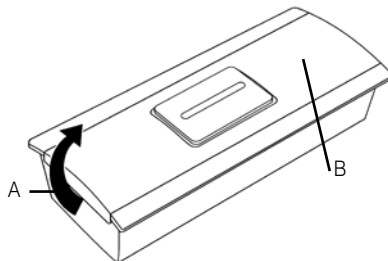

Figure 1: Call-pushbutton
- Remove the transparent front by lifting it off its clip on one side of the housing (fig. 1 A). If necessary, use a small flatsided screwdriver to assist.
- c) You can now open the small screw (fig. 1 B) using a small Phillips screwdriver and remove the front of the call-push-button behind which the PCB with the battery. is located.
- g) Carefully set the small screw (fig. 1 B) with a small Phillips screwdriver.